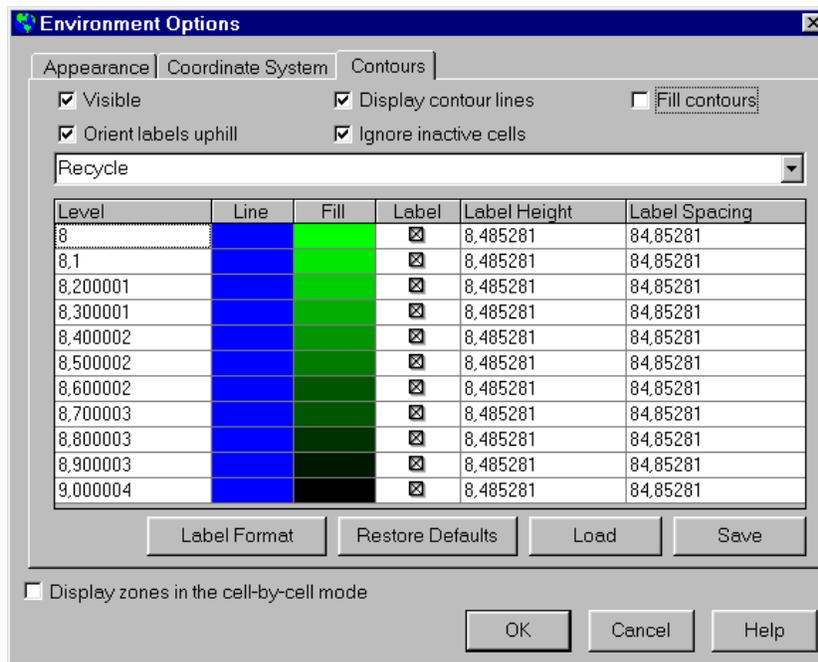

Fig. 1.13 The Contours options of the Environment Options dialog box
7. Click the **Contours** tab, check **Visible**, then click the **Restore Defaults** button. Clicking on the **Restore Defaults** button, PMWIN sets the number of contour lines to 11 and uses the maximum and minimum values in the current layer as the minimum and maximum contour levels (Fig. 1.13). If **Fill Contours** is checked, the contours will be filled with the colors given in the **Fill** column of the table. Use **Label Format** button to specify an appropriate format.